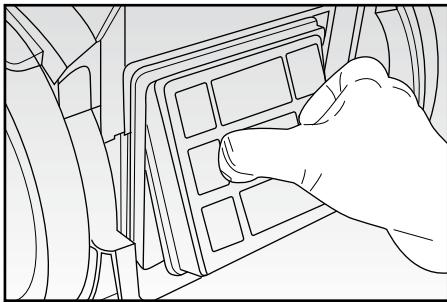

Fig. 10
- Remove the filter and clean it under running water (Fig. 10). Leave it to dry thoroughly.